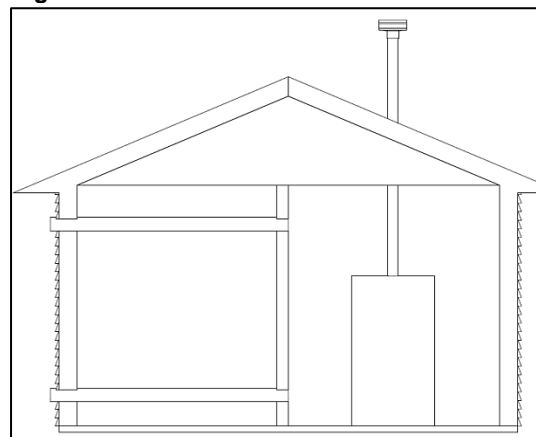

Figure 14 – Combustion Air Through Ductwork
2. If combustion and ventilation air is taken from the outdoors using a duct to deliver the air to the mechanical room, each of the two openings should be sized based on a minimum free area of one square inch per 2000 BTU/hr input. See Figure 14.